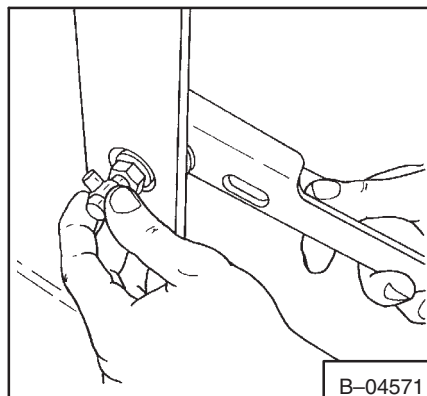

Fig. 5-47 Latch Bolt
3. Turn the latch bolt (Fig. 5-47) in or out to get the correct adjustment.